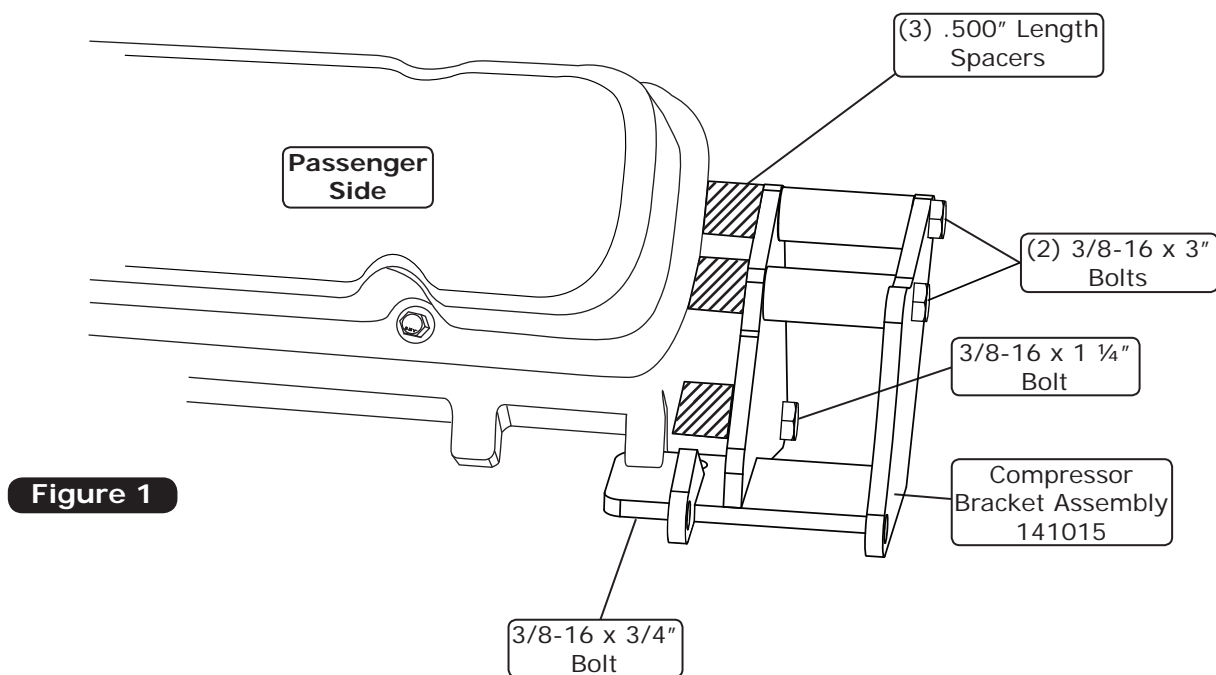

Figure 1
Install compressor bracket assembly to front and side of cylinder head using (3) .500" length spacers, (1) 3/8-16 x 1 1/4" bolt, (1) 3/8-16 x 3/4" bolt and (2) 3/8-16 x 3" bolts (See Figure 1, below).
Install compressor bracket assembly to front of cylinder head using (3) .500" length spacers, (1) 3/8-16 x 1 1/4" bolt and (2) 3/8-16 x 3" bolts (See Figure 1, below).